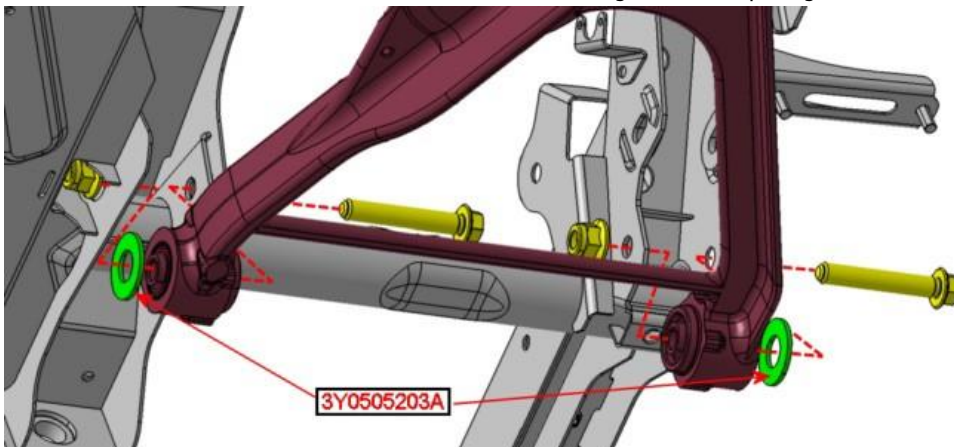

Figure 2
- Once the lower lever bushing is deemed to be serviceable then refit the lower levers Rep.Gr. 42 incorporating one new isolation washers (part number 3Y0505203A) between the outer edge of each inner bushes and the rear subframe (see Figure 2 and 3)